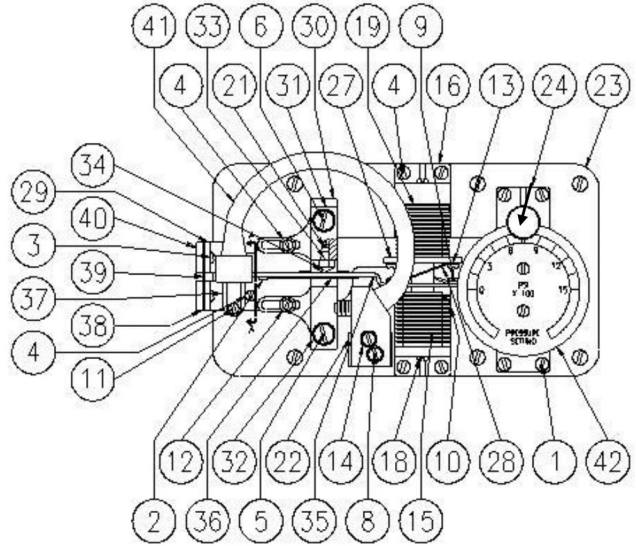

Figure 6: Controller Sub-Assembly for Bourdon Tube Controllers Mark 4150 and 4160
(Refer to Figure 6)
1. Move the calibration adjuster (Key 30, Figure 6) to the right or the left.
4. Raise or lower the nozzle (Key 34, Figure 6) to get the desired setting of zero as per chart below. Nylon insert will hold the nozzle in place.
5. Raise or lower the nozzle (Key 34, Figure 6) to get the desired setting of zero as per chart below. Nylon insert will hold the nozzle in place.
Controller Sub Assembly (Refer to Figure 6)